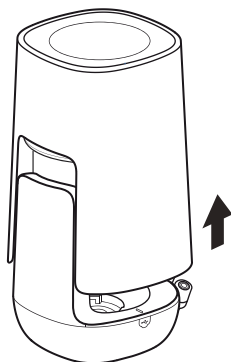

Figure 5.3 – Removing Shroud
2. Remove shroud by lifting shroud straight up and away from the filter base (see Figure 5.3).